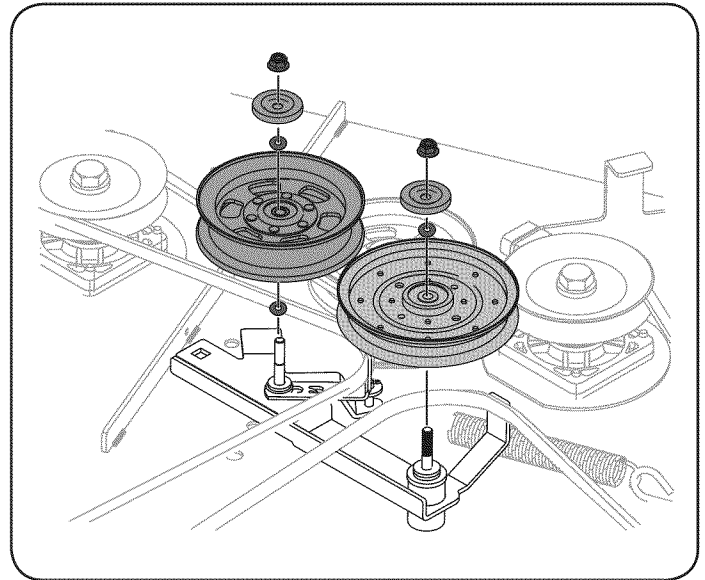

Figure 29
3. Remove the two idler pulleys by removing the hex screws, washers and flange lock nuts that secure them to the deck and the idler arm. See Figure 29. Do not lose any of the hardware when removing the hex screw and flange lock nut.